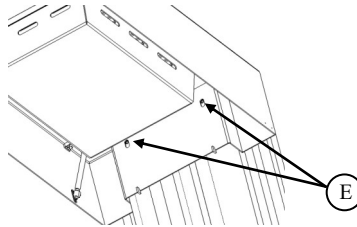

Figure 3: Tightening the screws
Following using the 4 supplied screws, tighten the 3 sets by the inferior part of the barbecue using the holes shown by (E) on the figure 3.